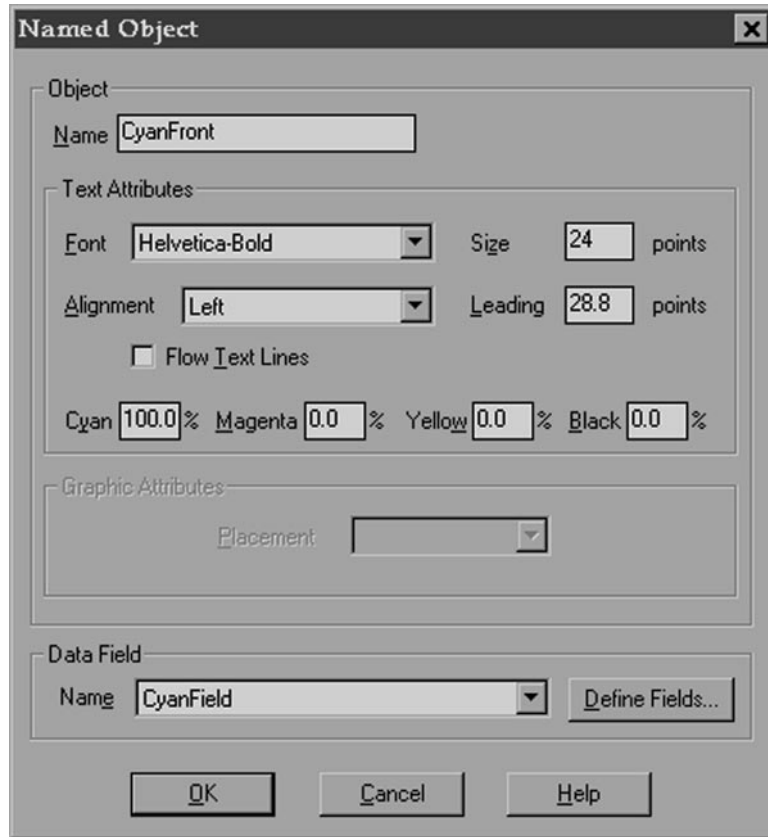

Figure 148. Named Object Dialog
4. Select the data field whose contents belong in this object. Figure 148 on page 152 shows the CyanFront text object.